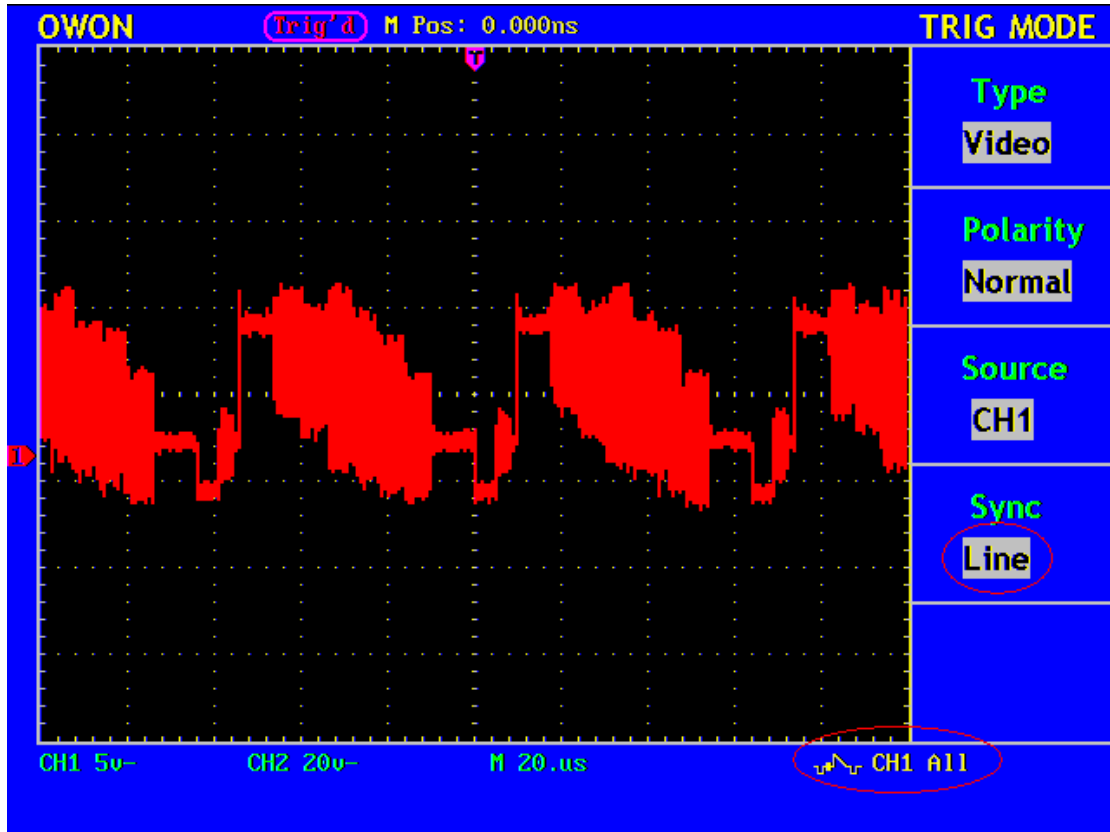

Fig. 60 Wave Form Obtained from the Video Line Trigger
6. Adjust the **VOLTS/DIV**, **VERTICAL POSITION** and **SEC/DIV** knobs to obtain the proper wave form display (see Fig. 60).